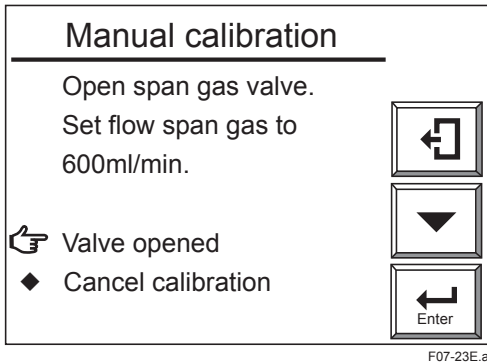
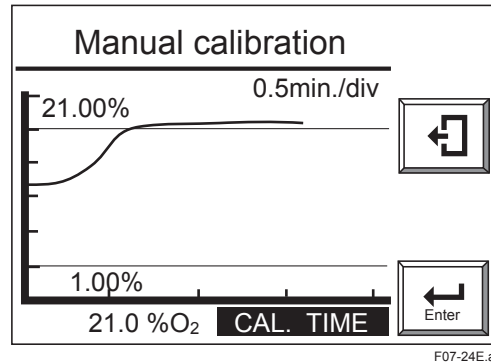

Figure 7.23 Span Gas Flow Display
Figure 7.24 Span Gas Trend Graph (for Manual Calibration)
- (3) Follow the display message in Figure 7.23 to turn on span gas flow. Open the span gas flow valve for the Flow Setting Unit by loosening the valve lock nut and slowly turning the valve shaft counterclockwise to flow the span gas at  $600 \pm 60$  ml/min. Use the calibration gas flowmeter to check the flow.
- (4) If “Valve opened” is selected as in Figure 7.23, an oxygen concentration trend graph (with the oxygen concentration being measured) appears (see Figure 7.24). The CAL.TIME in the bottom area of the panel flashes. Observe the trend graph and wait until the measured value stabilizes in the vicinity of 21% on the graph. At this point, calibration has not yet been executed yet, so even if the measured value is above or below 21%, no problem occurs.